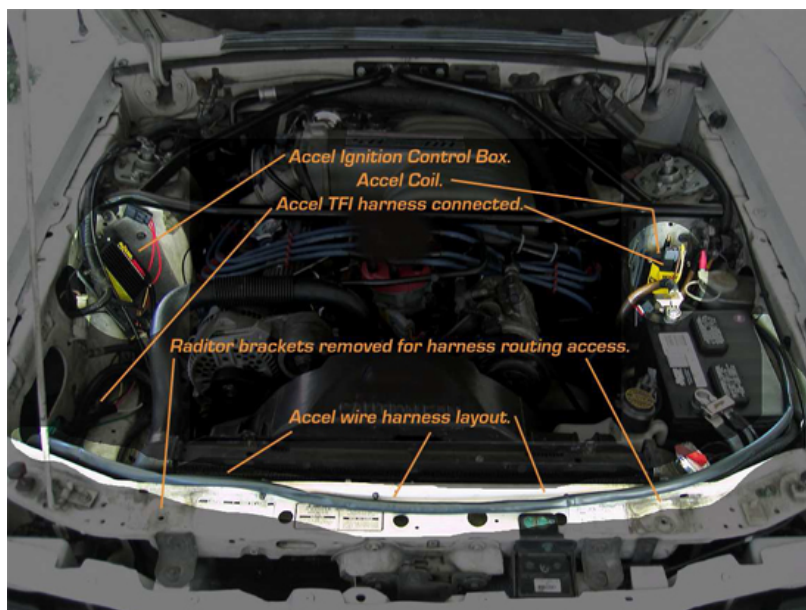

Fig8a
15. With the Harness fully connected to the Ignition Control Box, route the harness toward the Coil location. It is important to position the harness away from any heat sources, moving parts and high-energy wires. – I ran the harness over the radiator support, then over to the stock coil location. It was more than long enough to reach without any modifications or extensions (which is a BIG help!). (See: Fig8a) Remember to leave some 'slack' in the harness to allow for movement, the harness should not be pulled or stretched tight.